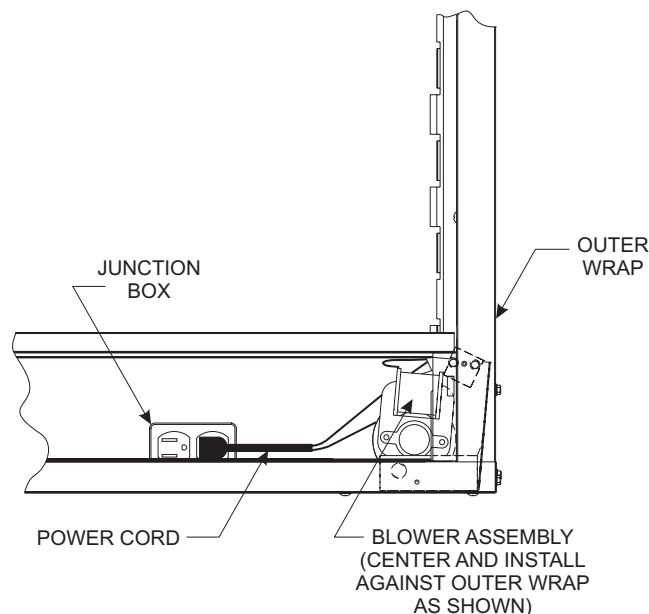

Figure 23
4. Insert blower assembly into interior, bottom of firebox. Note: On peninsula models, the blower must be installed at the end which has the brick panel installed. Position blower assembly so that you align the notch on back of blower assembly with the center screw on side/end panel, then push the blower assembly against firebox outer panel. The blower wheel must be centered with the side/end wall of the firebox. The magnets on the back and bottom of blower assembly will sufficiently hold blower assembly in place. See Figure 23.
8. To complete the installation, plug the power cord into the junction box receptacle previously installed in the bottom of the fireplace. See Figure 23.